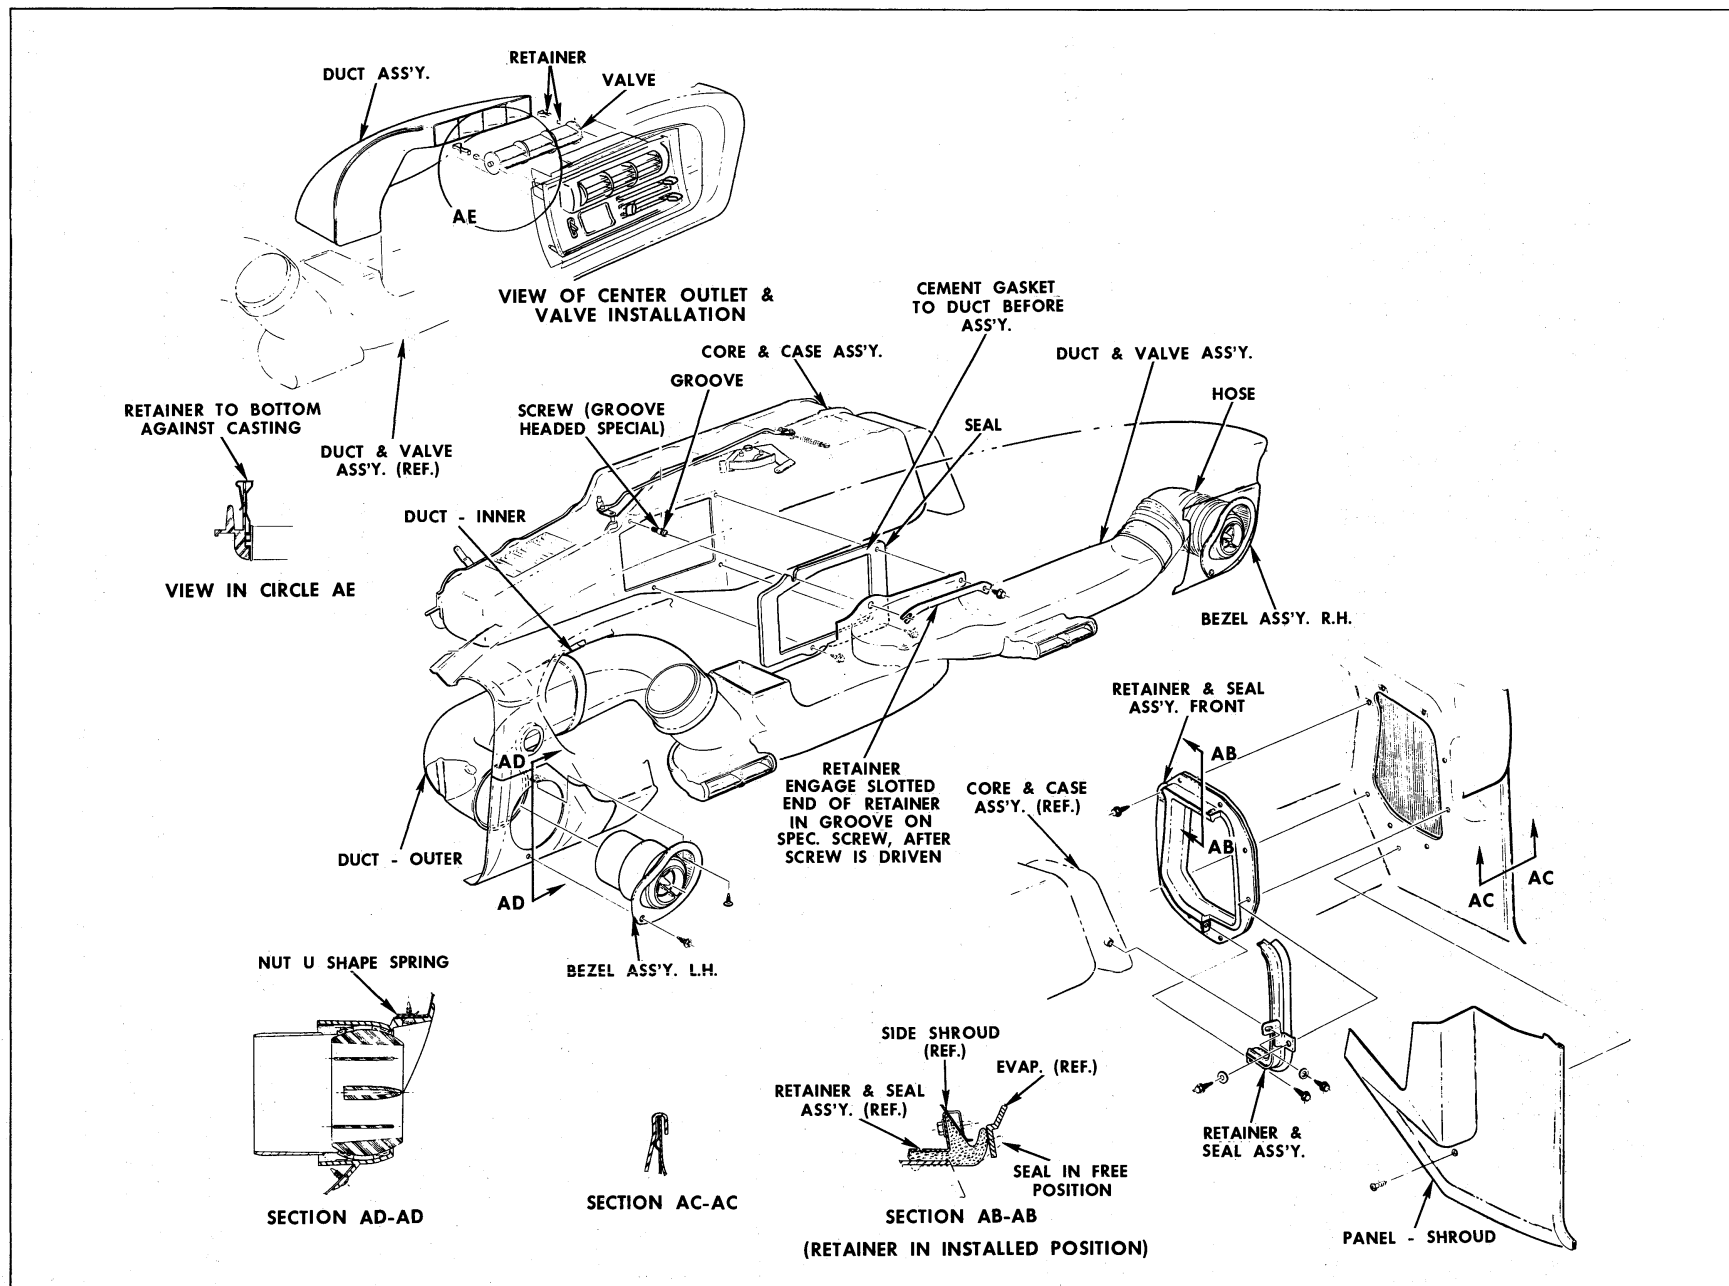

Fig. 9-3 Air System Components - Passenger Compartment
1. Remove lower instrument panel air conditioning duct and outlet assembly by removing three attaching screws and retainer (Fig. 9-3).
5. Remove two screws from heater core and case to evaporator housing retainer (Fig. 9-3).
2. Remove instrument panel air conditioning lower duct panel by removing three attaching screws and retainer (Fig. 9-3).